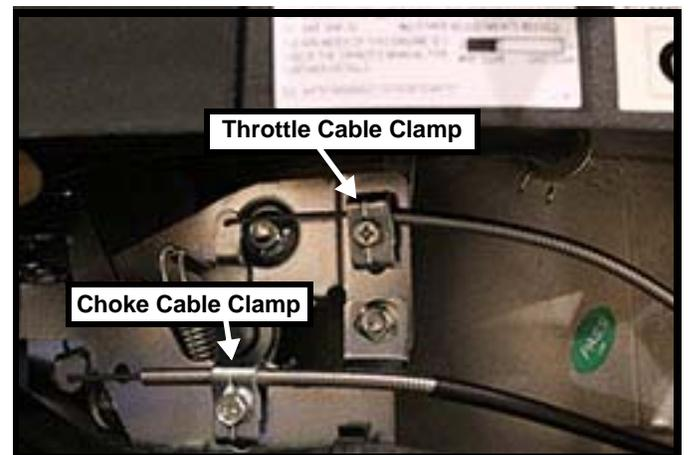

Figure 4
11. Remove the cable clamp that secures the throttle cable to the throttle control bracket. Figure 4.